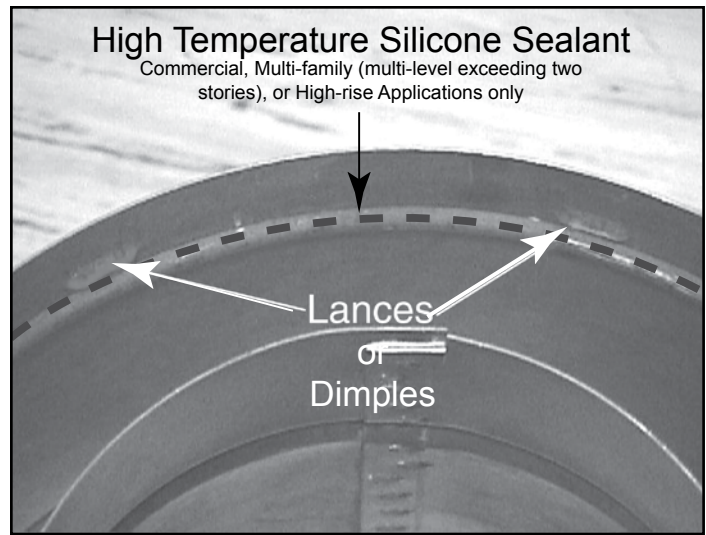

Figure 5 High Temperature Sealant
- Apply a bead of silicone sealant inside the female outer pipe joint prior to joining sections. See Figure 5.